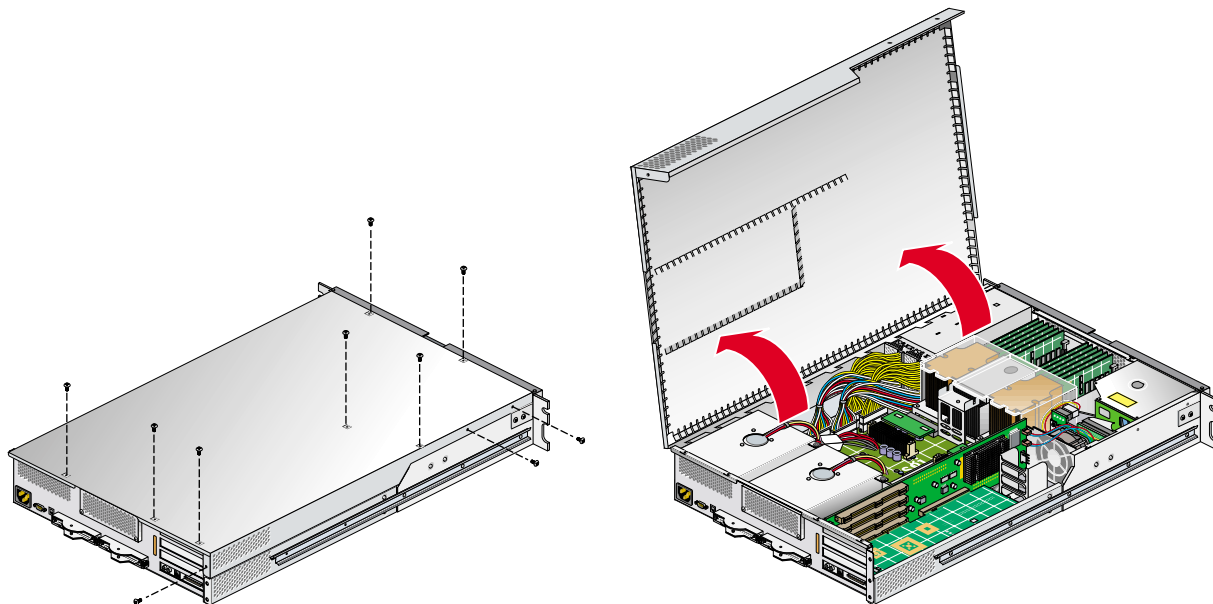

Figure 3-10 Opening the Cover to Remove the Card
8. To access the card, remove the ten Phillips screws, as shown in Figure 3-10, and lift the hinged cover.